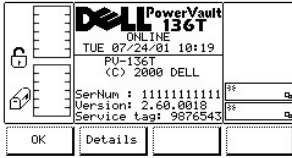

Figure 121. Main Menu > More > About Menu
- 1 The About Menu appears. This menu has two selections. See Figure 121.